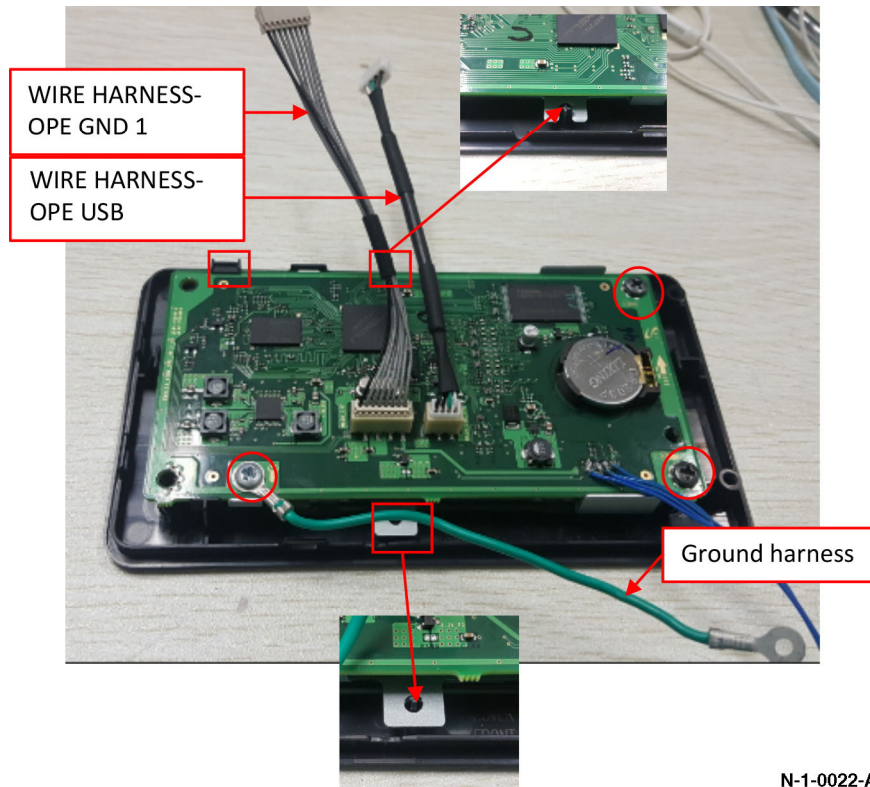

Figure 2 Release the Control Panel PWB
4. Remove three screws, disconnect the USB and Control Panel harnesses, then release the hooks and guide boss holding the Control Panel PWB to remove from the Front Cover, Figure 2.